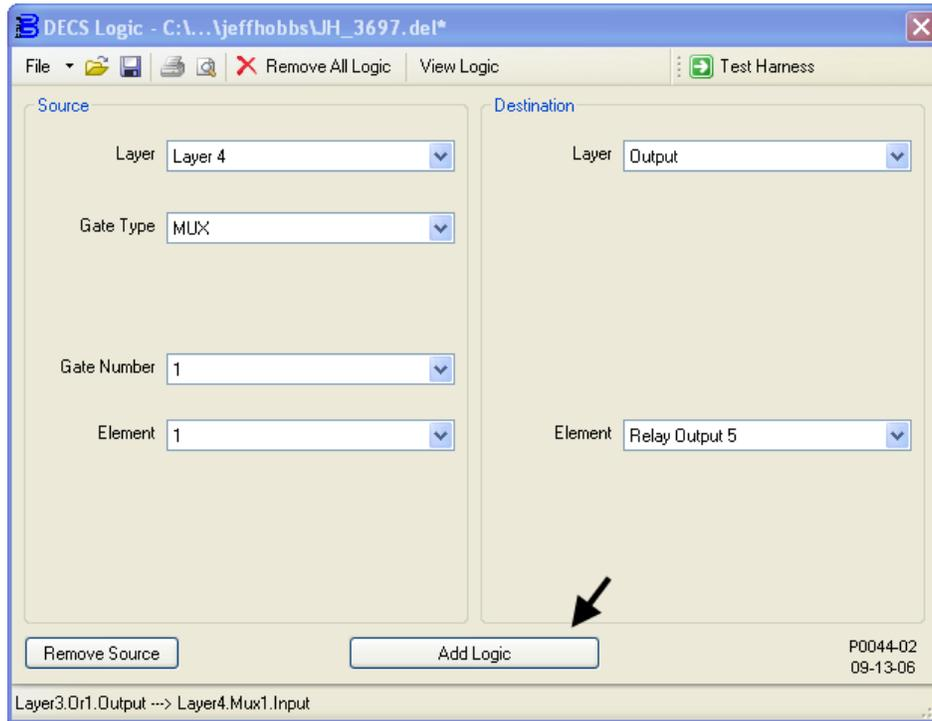

Figure 9-23. Addition of OutputBuffer – Layer4.Mux1.Output1 ----> Relay Output5
4. Figure 9-23 illustrates the DECS Logic window settings associated with this step. Connect output1 of multiplexer 1 on layer 4 to the Output Relay #5 output buffer. In Table 9-2, this association is identified by “DESTINATION: OutputBuffer – Layer4.Mux1.Output1 → Relay Output5”.